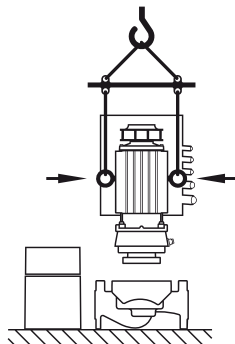

Fig. 8: Transport of the motor impeller unit
- If necessary, e.g. in case of repairs, the transport eyes can be moved from the motor flange to the motor housing (see e.g. Fig. 8). Before installing the transport eyes at the motor housing, unscrew the spacers from the openings of the transport eyes (Fig. 6, Item 20b) (see chapter 10.2.1 "Replacing the mechanical seal" on page 100).
- If the transport eyes have been moved from the motor flange and installed at the motor housing, then they are only approved for carrying or transporting the motor impeller unit (Fig. 8) and not for transport of the whole pump and not for separation of the motor impeller unit from the pump housing.